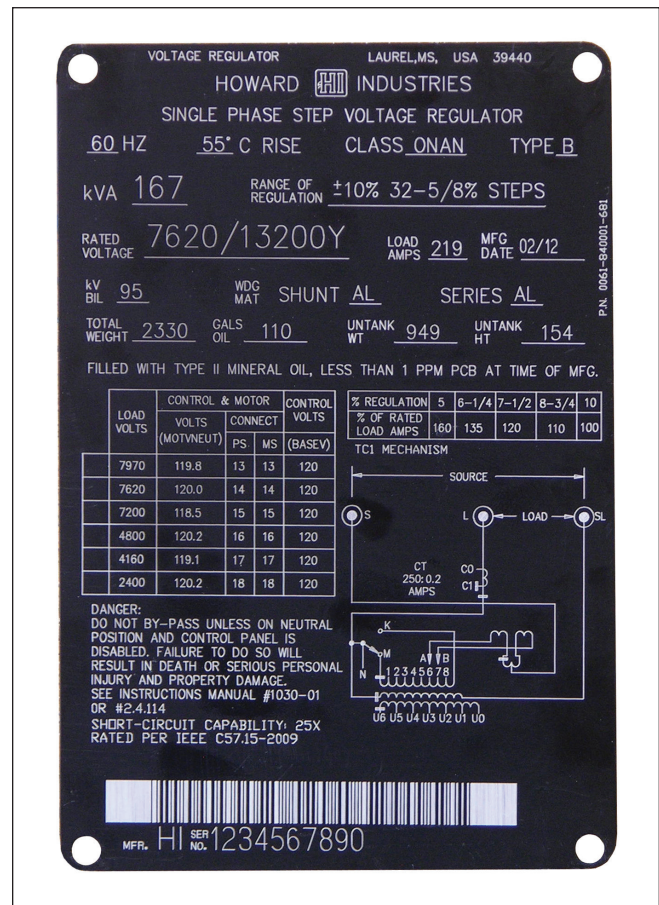

FIGURE 2: Typical regulator nameplate
6. Refer to the nameplate (Figure 2) and confirm that the regulator is connected for the proper output voltage, motor voltage, and control panel voltage. If not, follow the procedure on pages 6 and 7 to make the necessary connections.
In order to properly connect the control leads, it is necessary to refer to the control diagram found on the nameplate (Figure 2). The control diagram will aid in the identification of the appropriate terminal connections. Follow the instructions listed below: